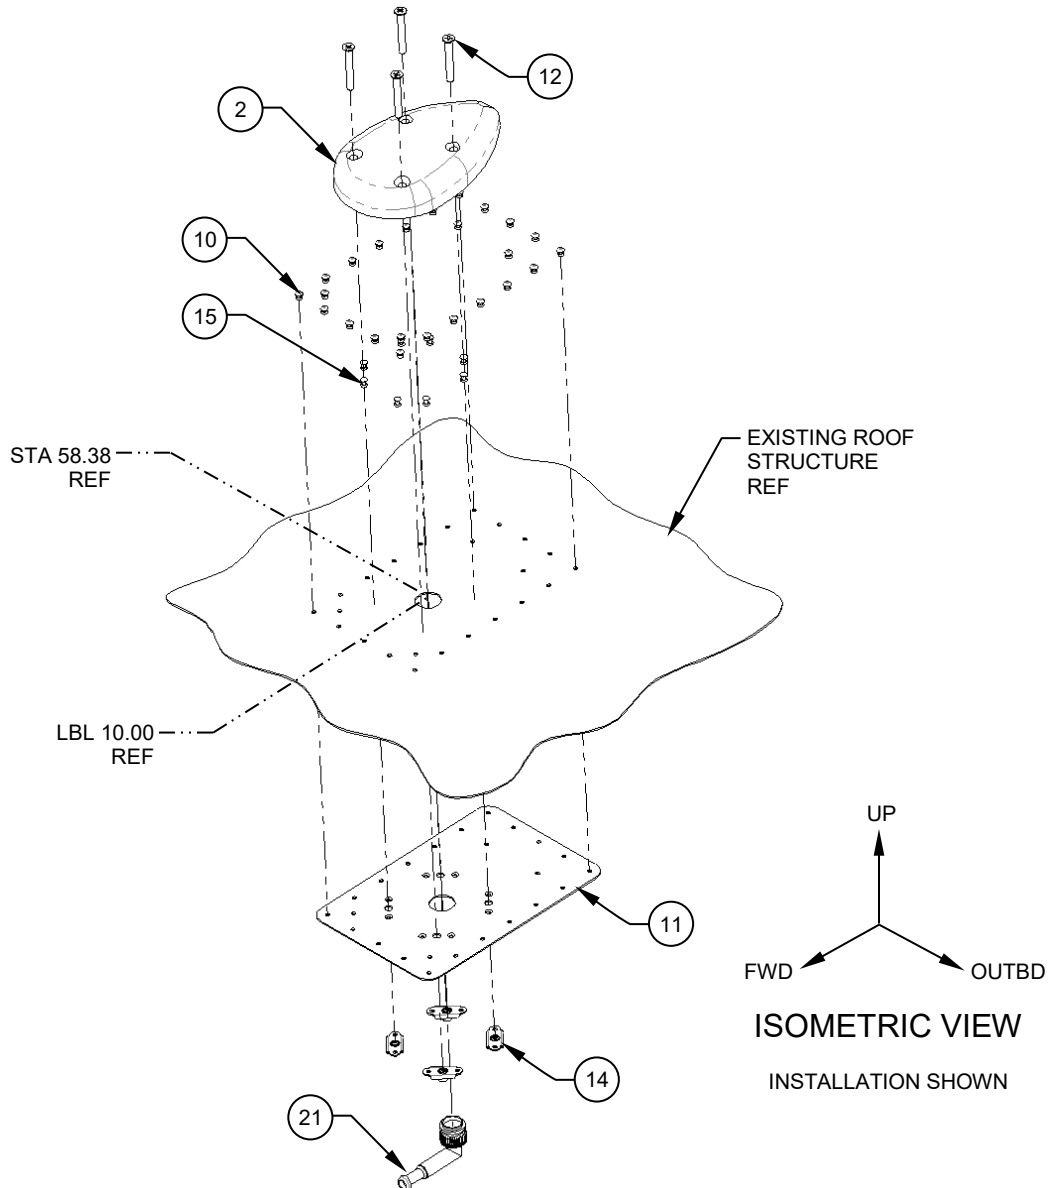

Figure 3
- Install the Doubler, Detail (Item 11) as shown in preparation for mounting the GPS Antenna (Item 2). Reference Figure 3. When installing the Doubler, Detail (Item 11), ensure that provisions are made to electrically bond/ground the antenna as per the requirements of BHT-ELEC-SPM, chapter 8.
- Install the GPS Antenna (Item 2) with the provided fasteners. Ensure that the GPS Antenna is electrically bonded/grounded per the requirements of BHT-ELEC-SPM, chapter 8. Reference Figure 3. Apply a fillet of Sealant, Corrosion Inhibitive (Item C01) around the base of the GPS Antenna. If required after installation, coat the area surrounding the GPS antenna (Item 2) with high solids epoxy primer per MIL-PRF-2377, Type 1, Class C2 and polyurethane paint in the appropriate color. Do not coat the GPS antenna.
12. Install the Coax Cable, Assy (Item 13) by fastening the SMA connector to the to the “IN” port of the Splitter (Item 5). Drill Ø.437” holes through frames 205-030-617-099/205-030-617-041 and 205-030-617-029 as applicable. Coat the inside of each hole with primer per MIL-PRF-23377, Type 1, Class C2 and install Grommet, Rubber (Item 25) in each hole once primer has cured. Route the Coax Cable, Assy (Item 13) through the grommets and secure with Cable Tie Mounts (Item 26) and Tie Straps (Item 16). Position the cable tie mounts to avoid interference with 204-030-636-003 Handle, Assy Reference Figures 3, 8 & 9 and Appendix B. Cut the un-terminated end of the cable to length and terminate the end with the provided TNC Connector (Item 21) at the GPS, Antenna (Item 2) Reference Figure 3. Connect the newly terminated end to the GPS, Antenna (Item 2).